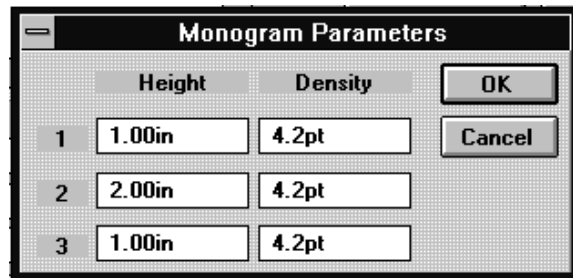

Figure 4-22
4. Click on Monogram in the upper right quadrant of the Text dialog box, and the Monogram Parameters dialog box displays (Figure 4-22). The numbers 1, 2 and 3 refer to the letters in a monogram. Set number 2, the middle letter, at a height of 2.0 inches. Change the density, if so desired.